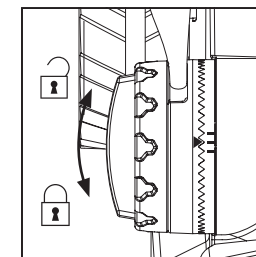

Fig. 16
Adjust the handle to a suitable height according to your needs. The lower handle bar (6) can be adjusted to 3 positions. The arrow on the handle support (12) should be aligned with 1 of the 3 position lines. (Fig. 16).
1. Loosen the securing knob (12a) and move the lower handle bar (6) to the desired position. Ensure that the tooth system interlocks (Fig. 16).
2. Tighten the securing knob (12a) (Fig. 16).